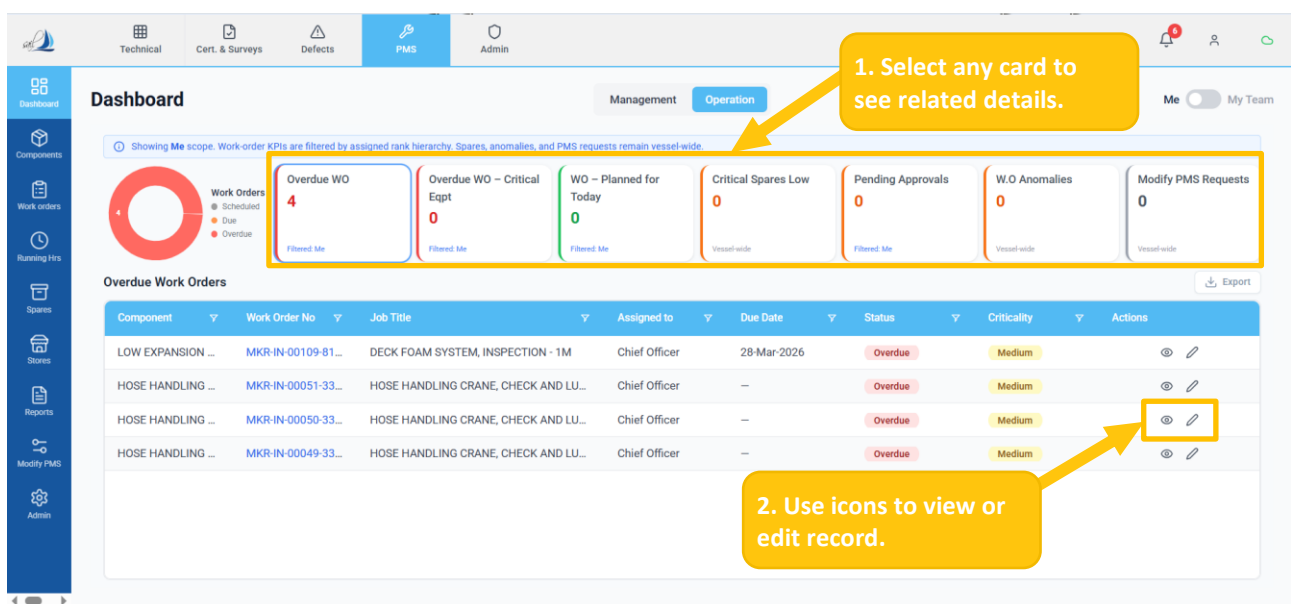

Figure 10
- Click any KPI card to display related details (work orders, inventory alerts, approvals, anomalies, and PMS requests) in the table below. (Ref Figure 10)
- Click the 'Eye' icon to preview details and the 'Pencil' icon to edit the record. (Ref Figure 10)